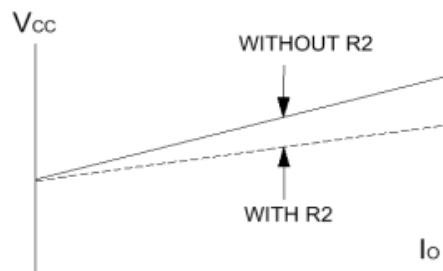
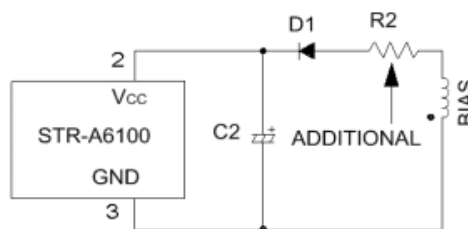

Figure 4 – V_{CC} vs. I_O (Secondary Load)
Figure 5 – V_{CC} Peripheral Circuit With R2
■ Bias Winding and R2 (Figure 5): the number of turns in the bias winding should be set so as to become [the V_{CC(OFF)} = 10 V < V_{CC} < V_{CC(OVP)} = 31.2 V]. In general, the bias winding voltage is set between 15 V and 20 V.
As shown in Figure 4, in an actual power supply circuit, the V_{CC} is susceptible to the secondary load. This happens because the primary winding surge voltage is superimposed onto the bias winding, charging the C2 to the peak right after the MOSFET is turned OFF. In order to prevent C2 from charging, as shown in Figure 5, R2 is added. Because a surge voltage is dependent on the structure of the transformer, the winding position of the bias winding also needs to be examined carefully. Furthermore, the optimum value of the resistor should be verified on the bench, which is generally a couple of ohms to